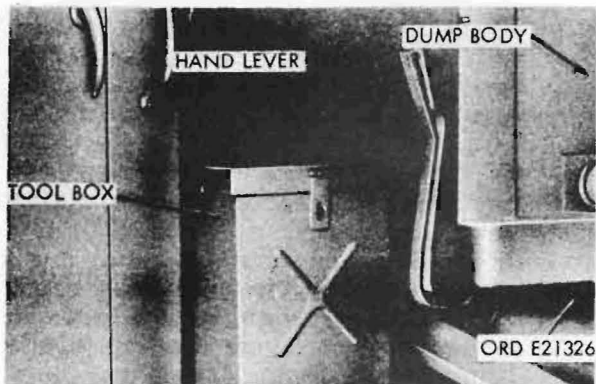

Figure 57. Dump body end gate hand lever
- (2) Dump body endgate hand lever (fig. 57). The dump body endgate hand lever, mounted on the left forward corner of the body, is pulled forward and down to open the dump body endgate, then pushed back to close the endgate.